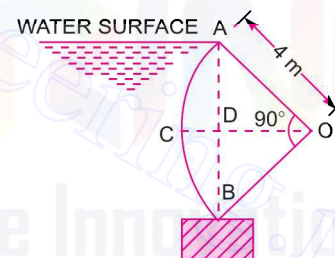

Fig. 3.32
**Problem 3.25** Find the horizontal and vertical component of water pressure acting on the face of a tainter gate of  $90^\circ$  sector of radius 4 m as shown in Fig. 3.32. Take width of gate unity.